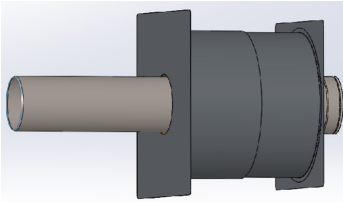

Figure 4a - FSW Wall Thimble
2. Cut the opening for the Wall Thimble to allow the spacer tabs protruding from the outer plate to sit comfortably within the opening. (**See Figure 4** for installation diagram, **Figure 4a** for the FSW Single Wall Thimble and **Figure 4b** for the W2 Wall Thimble). The opening for the single Wall Thimble will be 5" larger than the vent diameter (**see Table 3**), and for a W2 Wall Thimble the opening will be 6" larger than the vent diameter.
5. For single Wall Thimble (figure 4a), from the inside, slide the sleeve of Part B onto